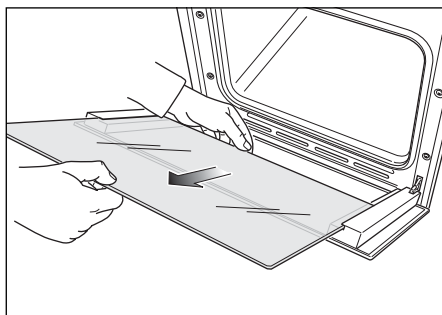

Fig.21e
- Gently pull out the inner pane of glass (Fig. 21e)